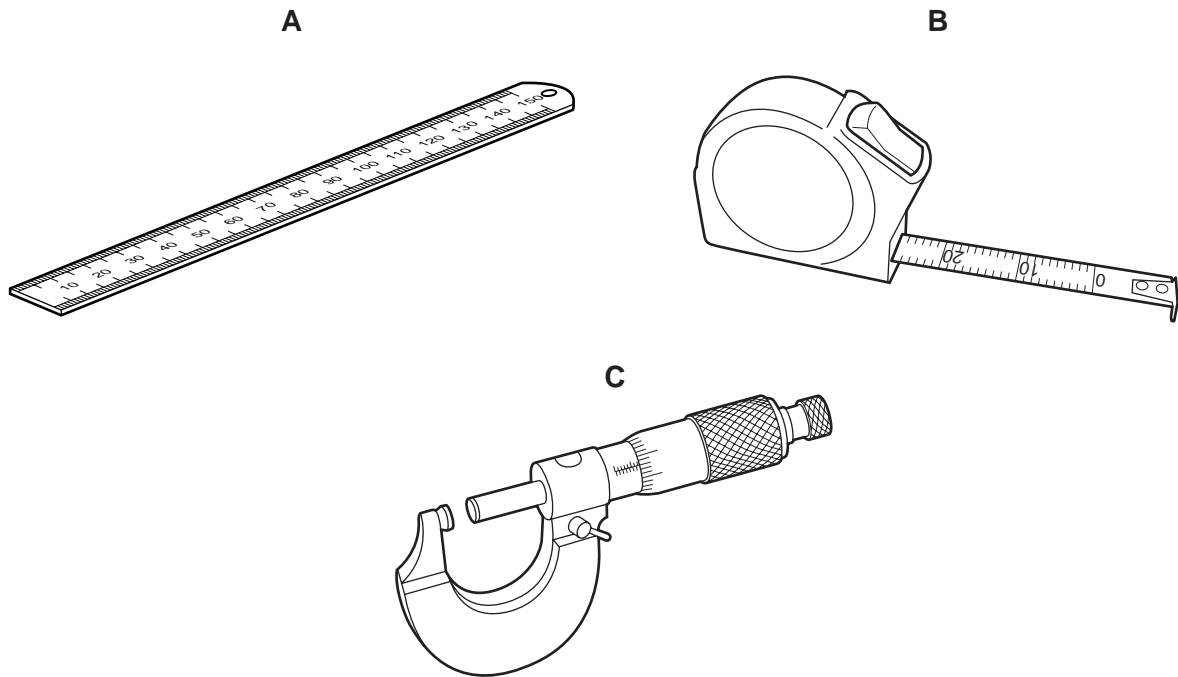

Fig. 6
- (a) Identify each of the measuring tools shown in Fig. 6 and explain the purpose of each. [6]